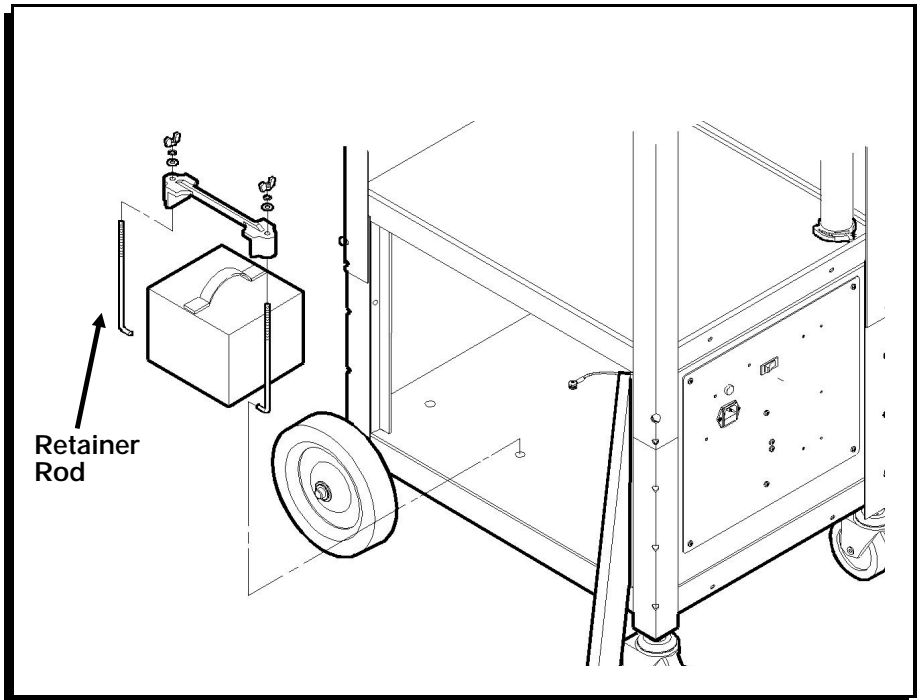

Figure 13
- ◆ (1) power cord (heavy-duty)
2. Find the two holes in the floor toward the front of the cabinet. Insert a retainer rod's short end (end without the threads) into one of the two holes as shown. Tilt the long end of the retainer rod up until it slides down through the hole. Repeat the process with the other retainer rod in the other hole. (Figure 13.)